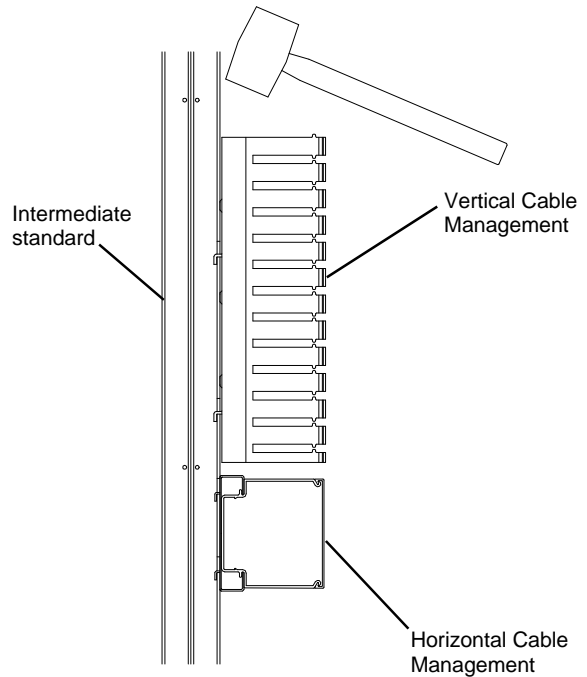

Figure 2
2. Insert the hooks on the back of the Cable Management into the slots in intermediate standard. Ensure that the hooks are fully seated by tapping the component downward with a plastic mallet. See **figure 2**.